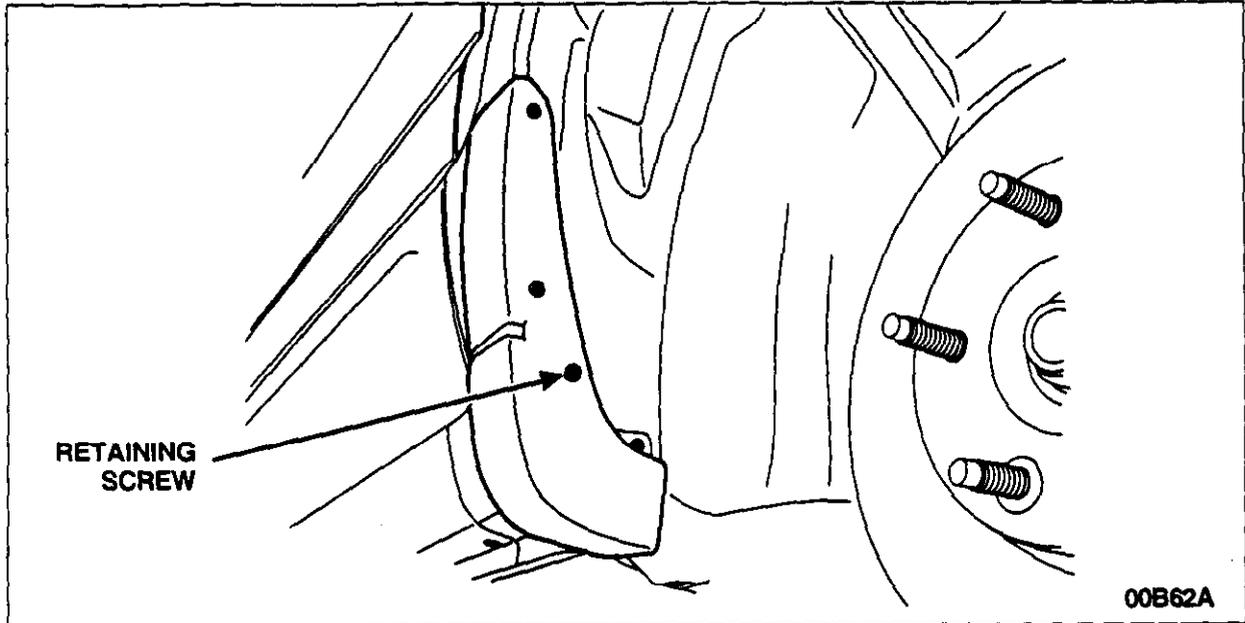

FIGURE 1
2. Remove the retaining screw shown and retain for reuse. See Figure 1.
See Figures 1 and 2.